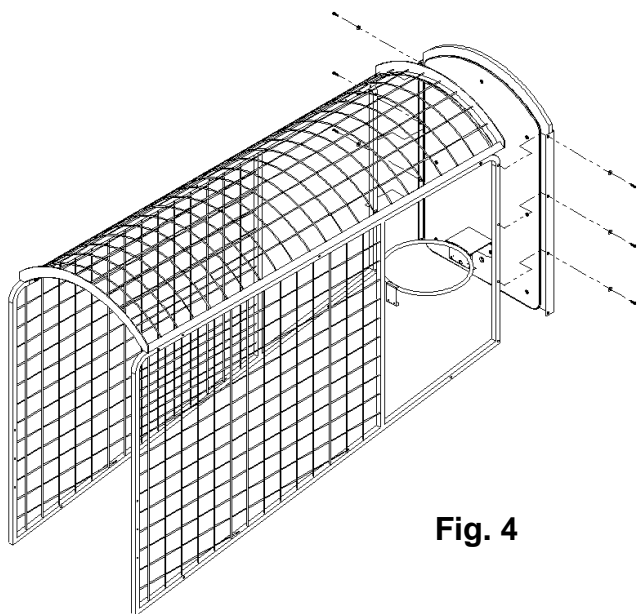

Fig. 4
8. Attach the backboard assembly to the cage framework using (6) 1/4-20 x 1" button head screws and (6) flat black washers. (See Fig. 4)